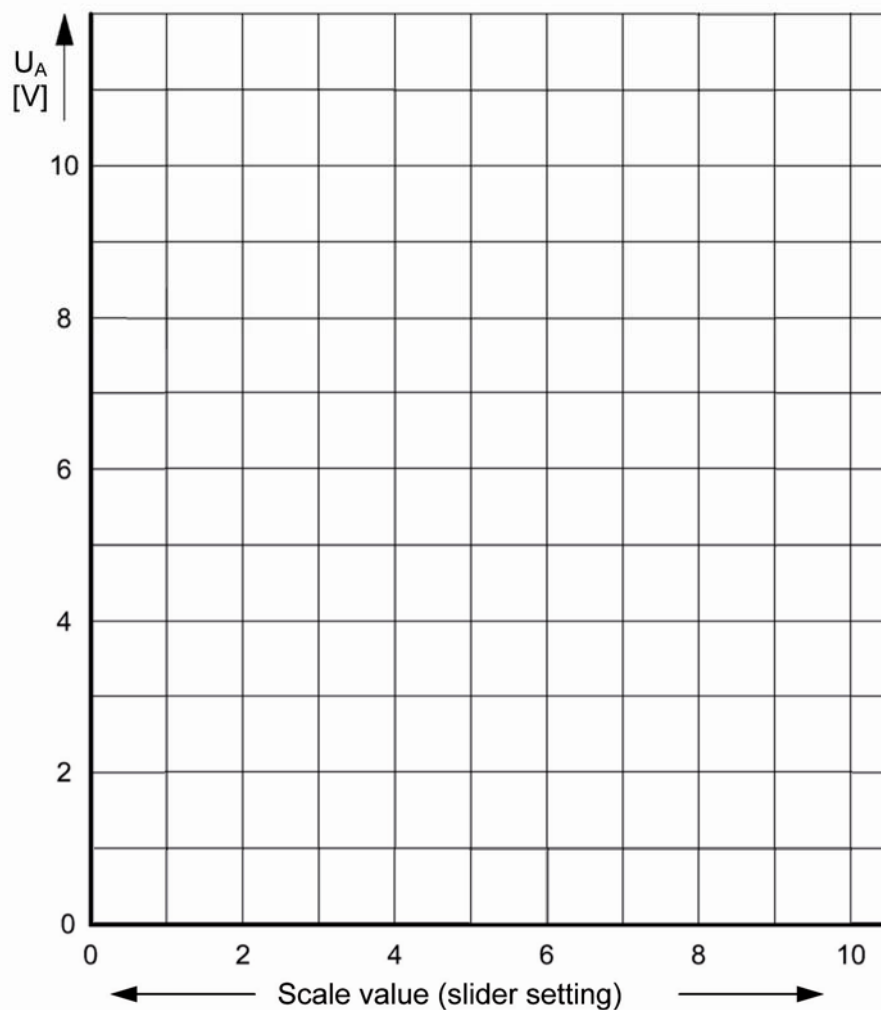

Fig. 3.11.2.5: Characteristics of the potentiometer with different loads
- Plot the values from the table in the chart (Fig. 3.11.2.5) and draw the characteristics  $U_A = f(\text{scale value})$ .